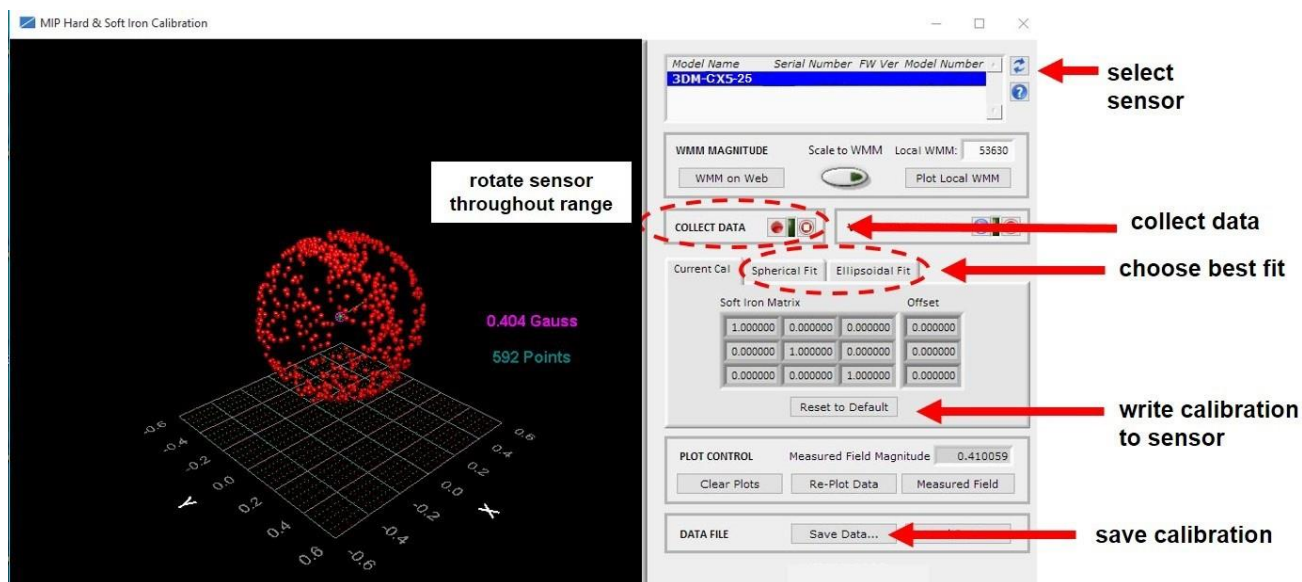

Figure 27 -Collect Calibration Data
- Click the Spherical Fit or Ellipsoid Fit button, depending on the application (*Figure 27 - Collect Calibration Data*). Spherical Fit is often best for applications with calibration rotations restricted to a 2D plane: for example, a ground vehicle or a boat, because it will not likely not be rotated on all three axis. Ellipsoid Fit is generally a better correction when soft iron effects are present but only if enough data points can be collected in all quadrants. If the range of motion is restricted in one dimension, the Spherical Fit may be